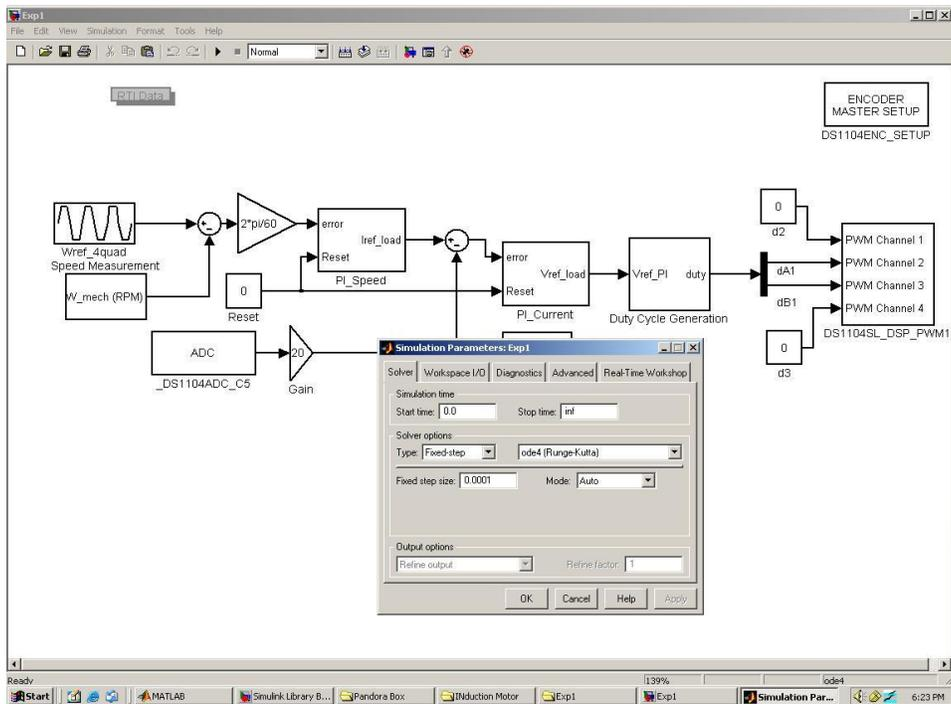

Figure 1.5: Simulink file Exp1.mdl, setting the simulation parameter
- The Simulink file **Exp1.mdl** will look as shown in Fig 1.5. Open the simulation parameters (**Or could be Configuration parameters based on the MATLAB version**) from the tools menu and set the parameters as shown in Fig 1.5. The fixed step size is the same as the discrete-step, which will be used by the DSP DS1104. This means that in every “discrete-step” the whole program (i.e. **control-system** in this case) will be executed, I/O data will be exchanged and the decision making will be done inside DS1104.